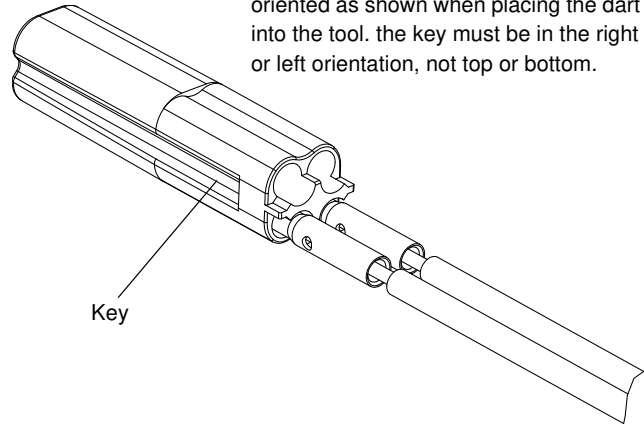

Figure 5
2. Pre-insert the first two terminated contacts, as shown in Figure 5.